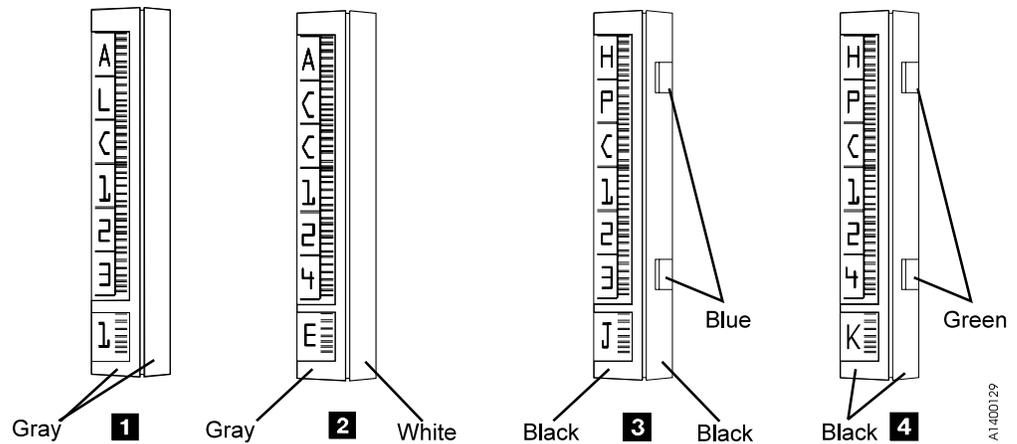

Figure 18. Cartridge System Tape Identification
Figure 18 on page 21 shows the Cartridge System Tape **1**, the Enhanced Capacity Cartridge System Tape **2**, the High Performance Cartridge Tape **3**, and the Extended High Performance Cartridge Tape **4**. Note the blue inserts of the High Performance Cartridge Tape and the green inserts of the Extended High Performance Cartridge Tape. Note also the placement of the media-type label (either 1, E, J, or K).
1. If both 3490E and 3590 drive types are installed in the 3494 tape library, all cartridges should have a label in the seventh character position (see Figure 18 on page 21).